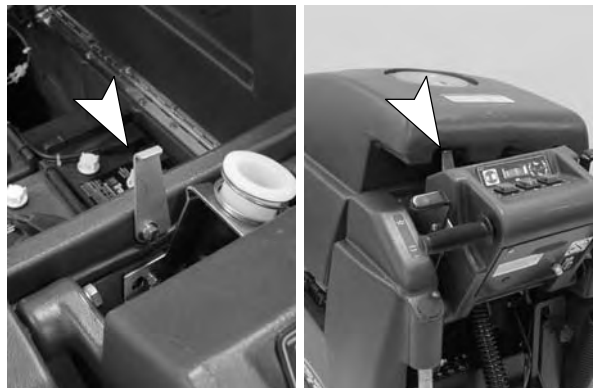

FIG. 31
6. Rest the recovery tank on the support stand to promote ventilation during charging (Figure 31).